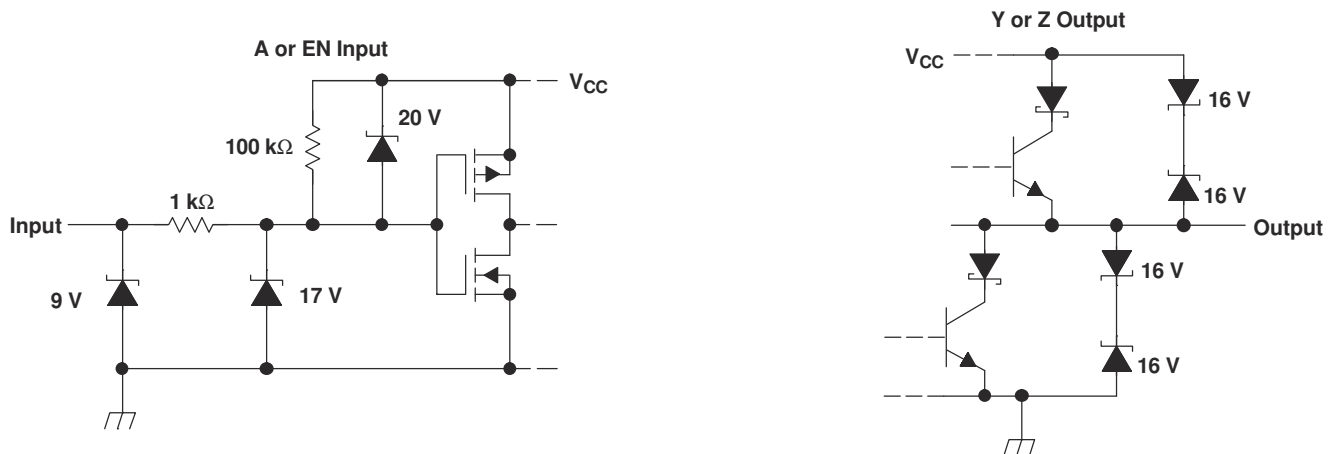

図 6-9. Equivalent Input and Output Schematic Diagrams
- Changed the location of 図 6-9 8